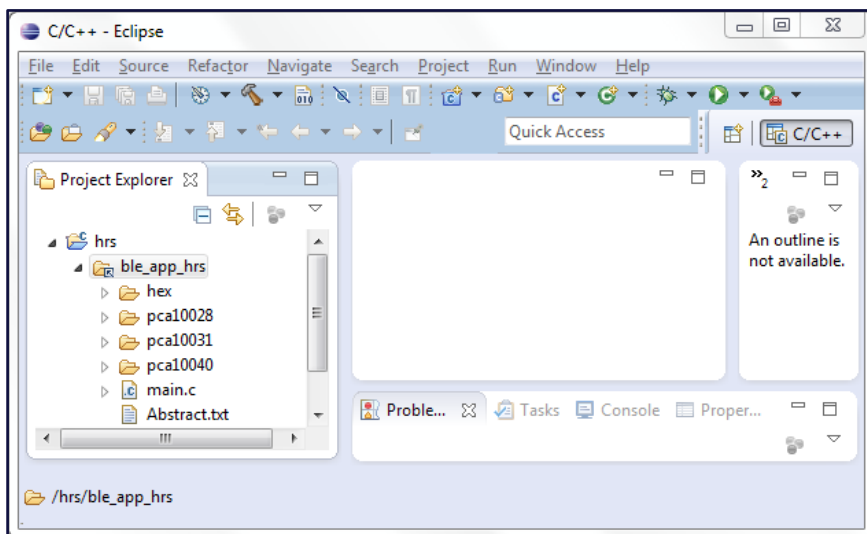

Figure 17: Project files and folders added in Project Explorer
9. The header and source files should now appear within the project (Figure 17).